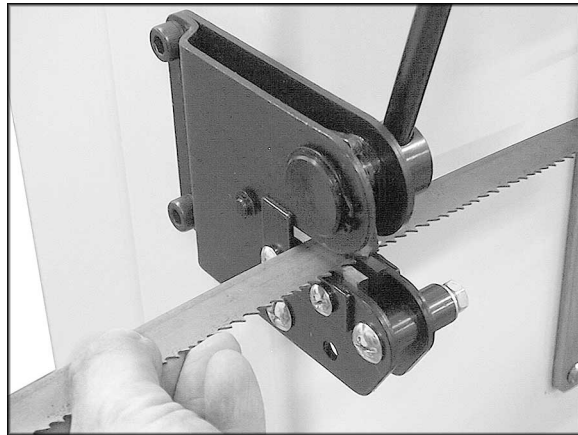

Figure 16
1. Place the blade in the shear as shown in Figure 16. Make sure the blade is held square with the shear knife, so that the cut will be square with the blade.